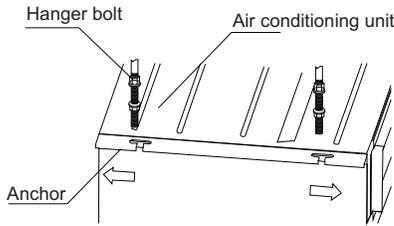

Fig. 47 – Hanger Bolt
- 2 Install the hanger on the indoor unit (see Fig. 47).